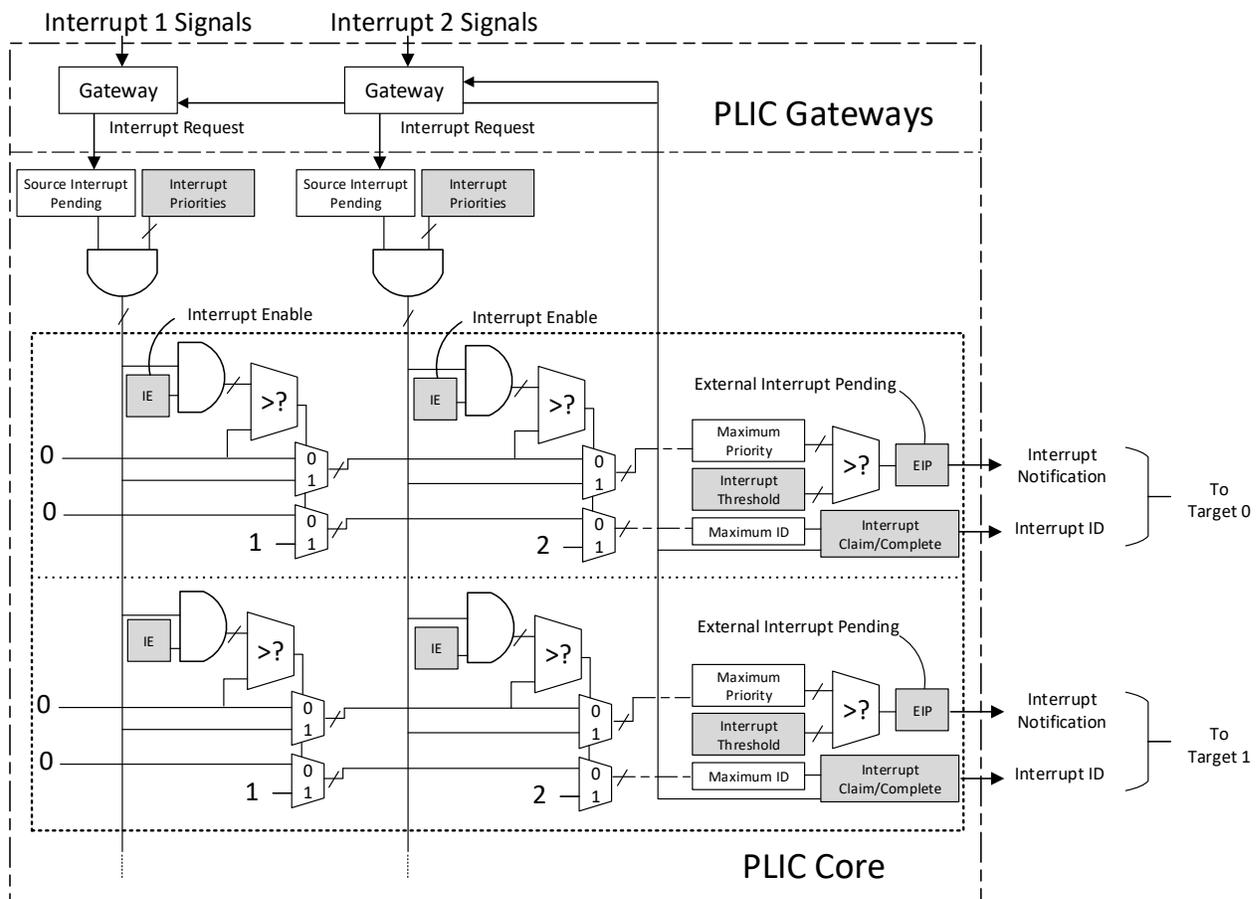

Figure 2.13. PLIC Operation Parameter Block Diagram
Figure 2.13 shows the block diagram of PLIC operation parameter. An example for how it works: interrupt input 1 gets asserted, it goes through the Gateway and sets Interrupt Pending bit of the Source. If its Interrupt Enable (IE) is set, the priority value can be passed and compared to other inputs all the way through the chain. The interrupt ID is similarly forwarded. So, if the Max Priority is larger than the threshold, External Interrupt Pending (EIP) can be asserted and sent to the processor. Meanwhile, the Gateway blocks subsequent interrupts from being forwarded until the current interrupt has been completed. Target 0 goes to Machine mode external interrupt, and Target 1 goes to Supervisor mode external interrupt.